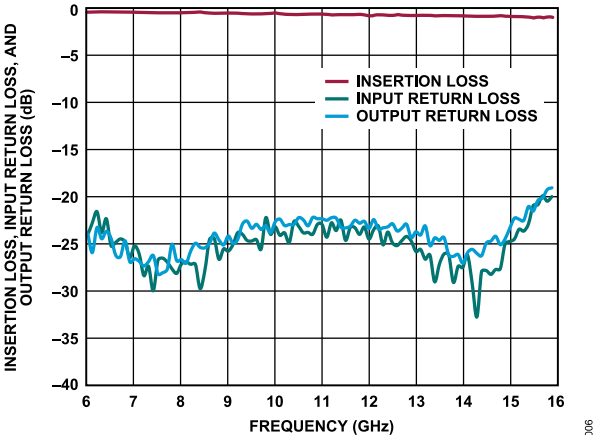

Figure 6. Insertion Loss, Input Return Loss, and Output Return Loss vs. Frequency of the Through Calibration Path
To calibrate board trace losses, a through calibration path is provided between the J5 and J6 connectors. J5 and J6 must be populated with 2.92mm, (K) RF connectors to use the through calibration path. Figure 6 shows the insertion loss, input return loss, and output return loss of the through calibration path. Table 2 lists the insertion loss of the through path vs. frequency.